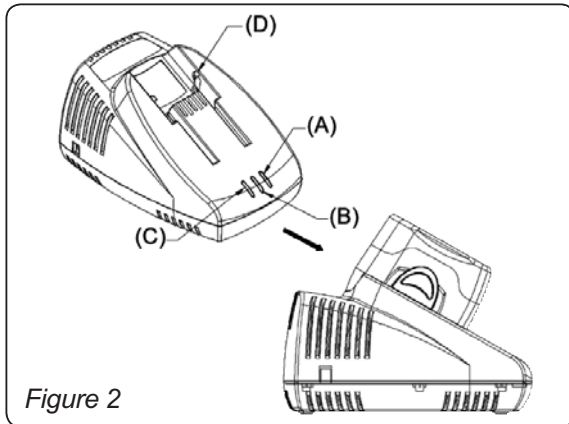
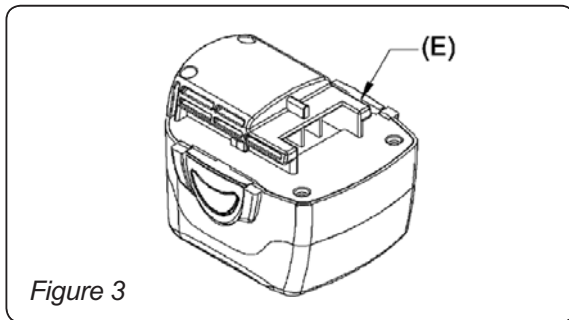

Figure 2
Figure 3
Make sure the power circuit voltage is the same as that shown on the charger specification plate. Connect charger to power source. The orange light (A) Fig. 2, should light up. This indicates that the charger is ready to begin charging.
Position battery pack on charger, align rails (Fig. 2, D) on battery charger with four tabs (Fig. 3, E) on battery pack. Slide battery forward onto charger until it stops.
The red light (Fig. 2, B) should begin to glow continuously, indicating that the battery pack is receiving a "Fast Charge". After approximately one hour, the "Fast Charge" indicator light (red) should go out indicating that the battery pack is fully charged and that the charger is now in a "Trickle Charge" mode (green light). The battery pack can be left on "Trickle Charge" until you are ready to use it.
CAUTION: When inserting battery pack onto charger, if the orange light (Fig. 2, A) starts to blink, and the green light (Fig. 2, C) begins to glow, indicating maybe battery temperature is too high or the battery voltage is too low, please leave battery pack on charger, it will be charged automatically when battery temperature is between 32°F (0°C) and 100°F (37.7°C) or when battery voltage becomes normal. Then the red light (Fig. 2, B) should begin to glow continuously, and the green light will turn off.